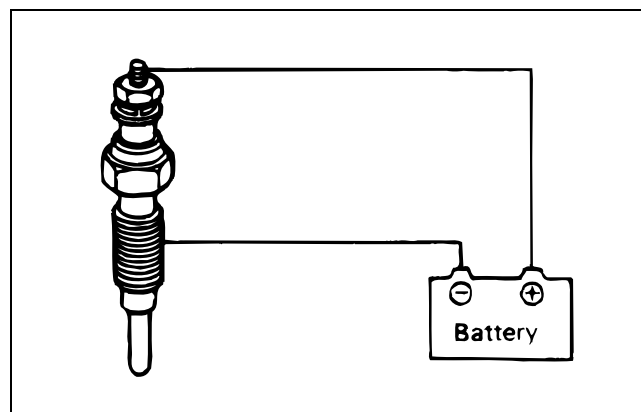

Figure 34
4. Connect the positive (+) battery terminal to the glow plug terminal, and the negative (–) battery terminal to the plug body (Fig. 34). If the glow plug glows red-hot in 9 to 12 seconds, the glow plug is operating correctly. DO NOT leave on more than 20 seconds.